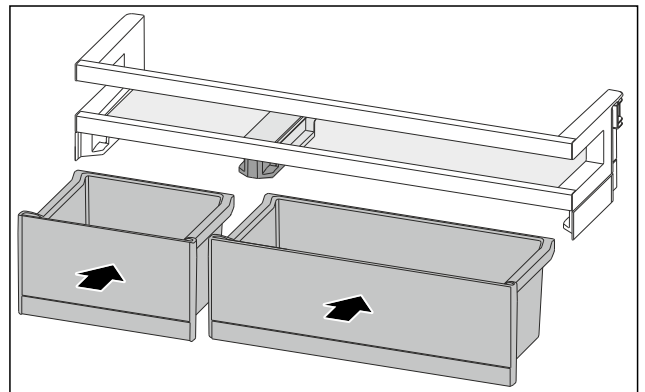

Fig. 153
- Insert the VarioBoxes in reverse order. (see Fig. 153)